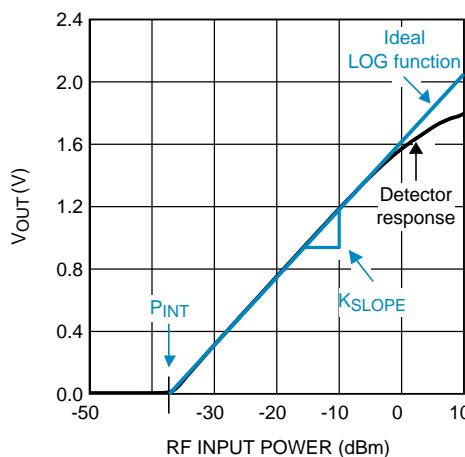

Figure 45. Ideal Logarithmic Response
- P_{INT} is the power level in dBm at which the line intercepts $V_{\text{OUT}} = 0$ V (see Figure 45). (9)